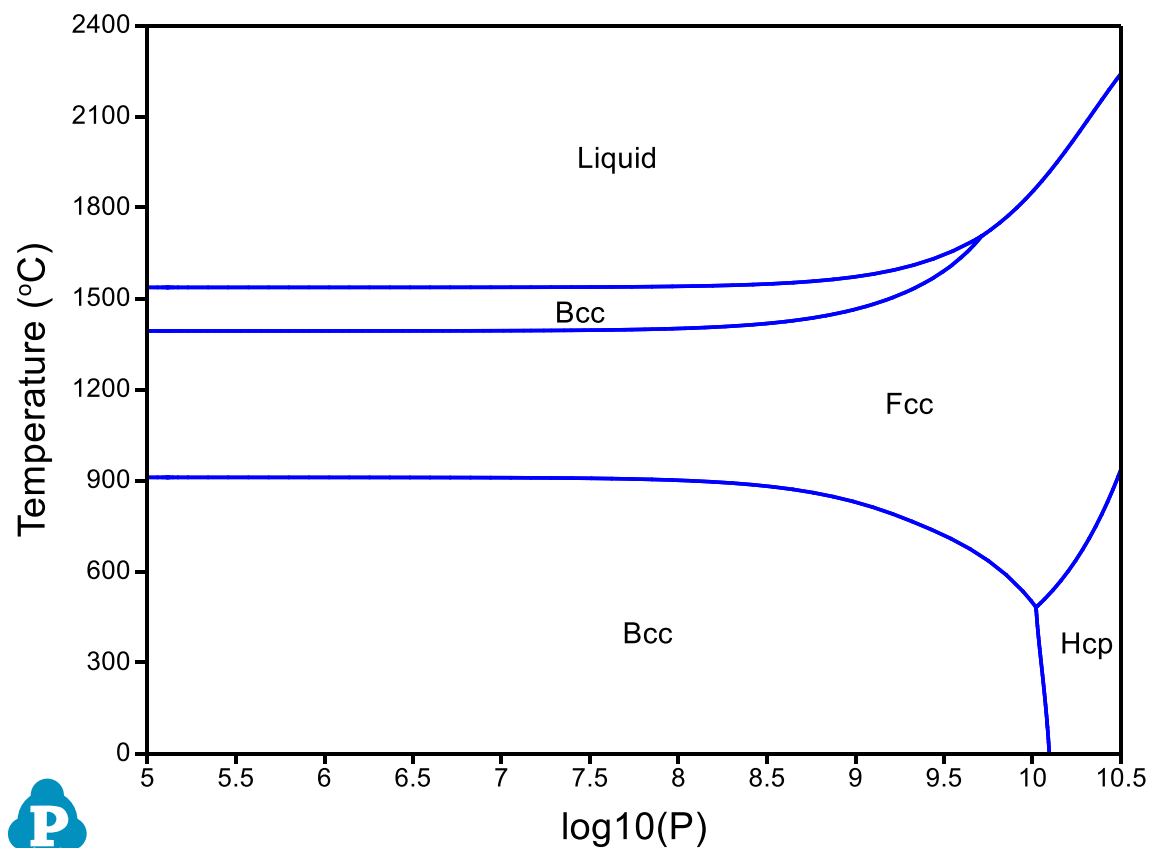

Figure 1.18.2: Temperature-log (Pressure) diagram for pure Fe component
- Figure 1.18.2 shows the default plot when calculation is finished, it is T- $\log_{10}(P)$. It clearly demonstrates the stability of each phase at different temperature and pressure;